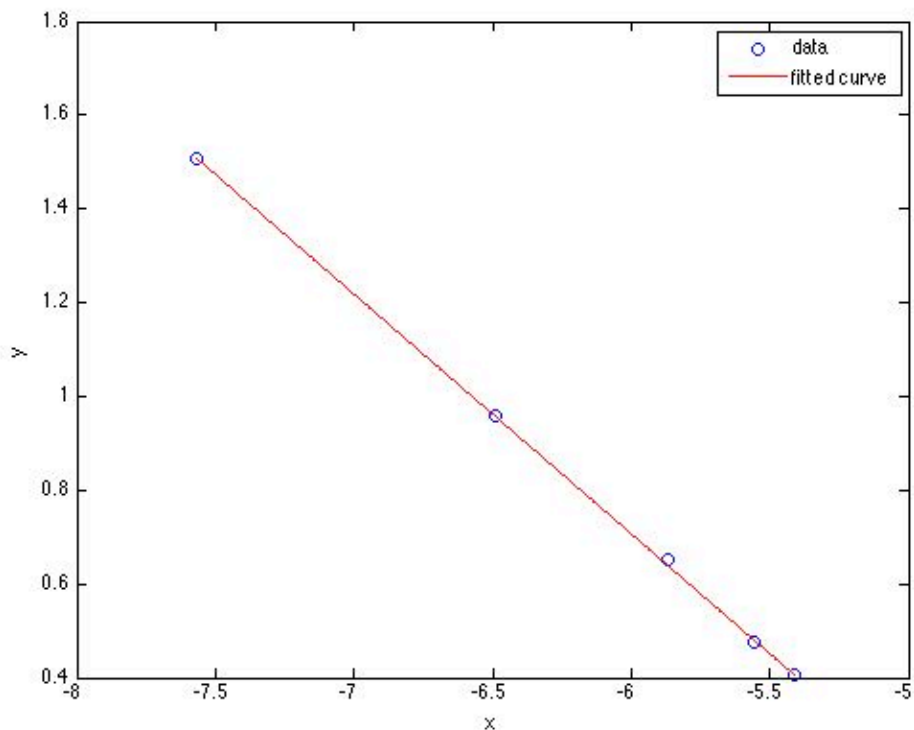

Figure 1. Model plot showing the experimental data as points and the model's predictions as a line.
Thus, we can generate a set of (x,y) data using equations (4) and (9). The model has only one independent variable, x , and it *does* include an intercept. With this information and input data we have everything needed to fit the model to the data. Upon doing so, using whichever linear least squares fitting tool one chooses to employ, the resulting output shows that the correlation coefficient, r^2 , is equal to 1.0, the best value of the slope, m , is equal to -0.51 ± 0.01 and the best value of the y -intercept, b , is equal to -2.36 ± 0.08 (95% confidence limits based upon the data given in the problem statement). The fitting tool may also produce a model plot like that shown in Figure 1, but if such a plot is not created, one can be generated easily.
One next must decide whether the final model is sufficiently accurate. In this case, the accuracy of the model can be assessed using the correlation coefficient and the model plot. The closer the correlation coefficient is to a value of 1.0, the better the fit of the model to the data. In this case, the correlation coefficient of ~ 1.0 indicates an excellent fit. Additionally, if the fit is accurate, then the scatter of the experimental data about the line representing the model should be small and random; there should not be any systematic deviations of the data from the model. Examining the model plot, Figure 1, shows this to be true. Thus, the experimental data are accurately described by equation (3).
Before executing FitLinmbSR, the experimental values of x must be stored in a vector named x , and the experimental values of y must be stored in a vector named y_hat . Upon execution of the script, it will return the correlation coefficient, r^2 , as $r_squared$, the slope, m , as m , the 95% confidence limits on the slope, λ_m , as m_u , the intercept, b , as b and the 95% confidence limits on the intercept, λ_b , as b_u . It will also generate a model plot. Once these values are available, the best value for n and its uncertainty can be computed using equations (7) and (12). The commands for performing all these tasks can be entered at the MATLAB command prompt, but here they have been recorded in the MATLAB file named 15_Example_3.m which accompanies this solution. Listing 1 shows the code from 15_Example_3.m and Listing 2 shows the output that it produces, except for the model plot, which was presented previously as Figure 1.